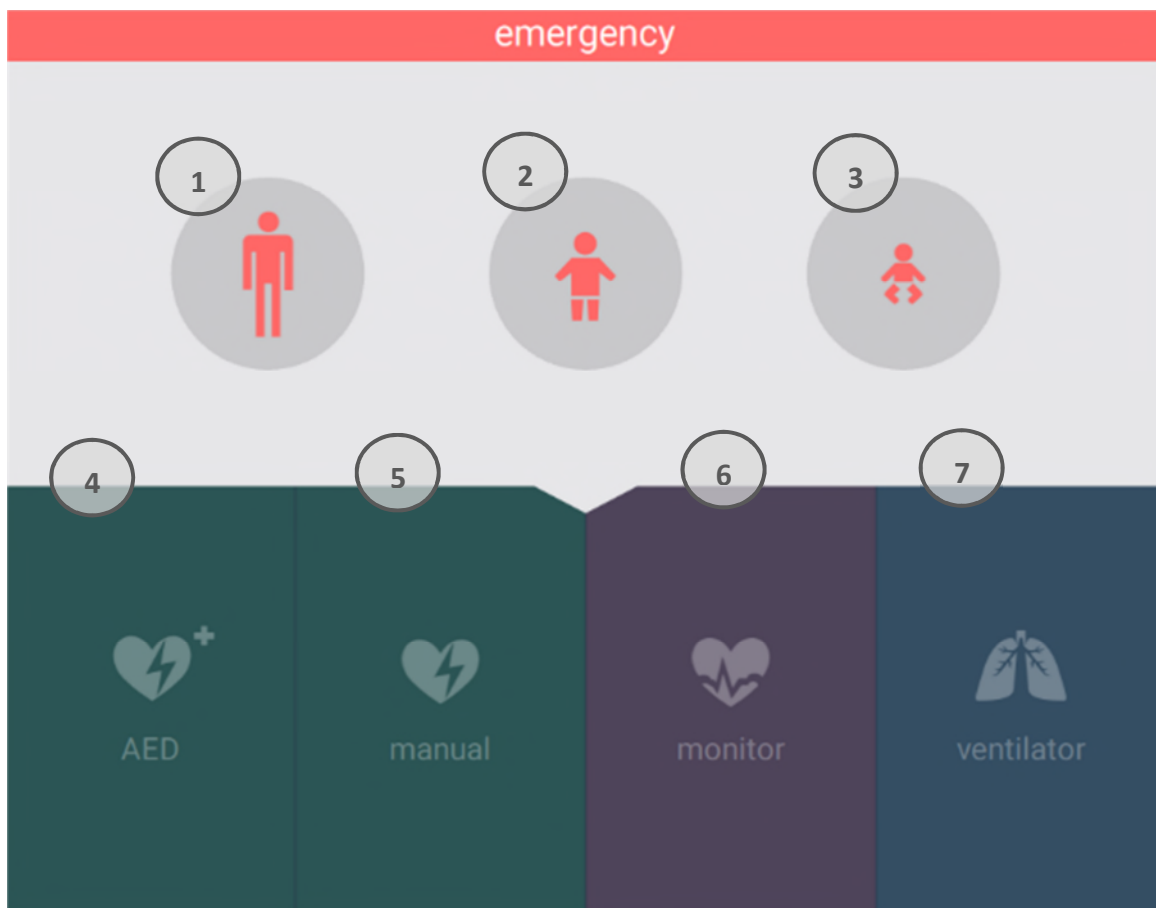

Figure 4-15: Home Screen Emergency Area
- Emergency area (*Figure 4-15, item 1*): organizes the access to emergency use regarding ventilation, monitoring and/or defibrillation. First select the patient area, then select the module and mode.